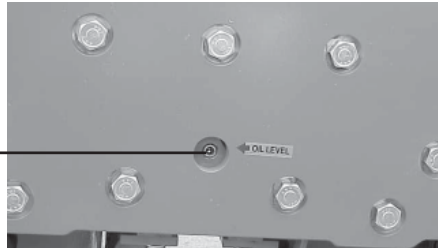

Figure 9. Checking Vibrator Oil Level
2. If any leakage is noticed, remove the level plug on the side of the plate (Figure 9).